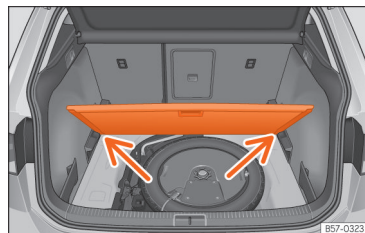

Fig. 171 Variable boot floor: tilted position.
- Rest the floor on its housings »» Fig. 171 (arrows).